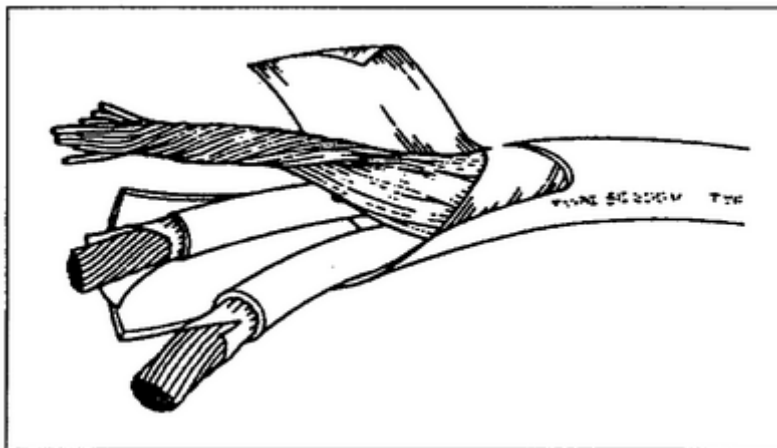

Figure 2-8. Cable with built-in ground conductor
b. In cable, such as nonmetallic sheathed cable, ground conductors can be built-in (Figure 2-8). Request cable with a ground conductor if you need a ground conductor. You do not need to worry about the size of the ground conductor in cable. However, when you pull conductors in conduit, you must select the proper size of ground conductor.